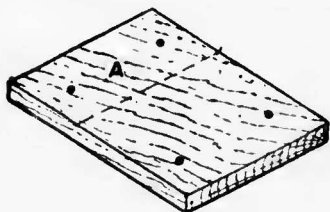
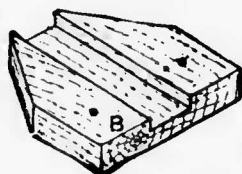

Fig. 16
Fig. 17
Figs. 16 and 17.—Details of Home-made Plough
Home-made ploughs are serviceable tools, and can be constructed from simple material, such as a chisel, some pieces of wood, and a few screws. Knock off the handle from an ordinary  $\frac{1}{2}$ -in. chisel having a "shoulder" near the haft, and replace it with a cork; cut to the shape of Fig. 16 a piece of thin wood (say  $\frac{1}{4}$  in. thick)  $2\frac{1}{2}$  in. in breadth, its length depending on the length of the chisel. Place the chisel on the wood so that the cutting end overhangs about  $1\frac{1}{2}$  in.; at the other end mark where the shoulder of the chisel touches the wood, and cut across just above the mark so that the shoulder falls over the edge and allows the chisel to lie flat on the wood. Cut another piece of wood thicker than the last (of full  $\frac{1}{2}$ -in. stuff) to the shape of Fig. 17.
B. Put the second piece of wood, groove downwards, on the first one so that the square end B of Fig. 17 rests upon the portion marked A of Fig. 16, allowing the pointed end to overhang. Screw the two pieces together from underneath, taking care
to countersink the screw-heads. In the tunnel thus formed insert the chisel with its *bevelled edge upwards*, as it must always be when in use, and see that it has a rather loose fit. If it is all right, the cutting edge will project about  $\frac{3}{8}$  in. at one end, and the shoulder will just fall over the edge at the other end. In a piece of wood c (Fig. 18), measuring, say, 2 in. by  $\frac{1}{2}$  in. by  $\frac{1}{2}$  in., make a groove of the same width as before, but a trifle deeper than the groove is at B (Fig. 17). Screw this last piece to the foundation A (Fig. 18) so that the groove en-
of course, intended to be pushed to and fro upon the right cheek of the press; but the tool, as it stands, will not cut straight through so as to leave a nice flat surface, but will rise until it has made a "hog's-back." To prevent this, provide a bar of wood  $\kappa$  (Figs. 18 and 19), which should be fixed at one end to the top  $G$  of the plough, and should rest at the other end on a guide-rail  $J$  fixed to the top face of the left cheek of the press. The bar should be rigid, say of  $\frac{1}{2}$ -in. stuff about 8 in. long, and be fixed to the plough with two screws. The top surface of the rail must be level with the top face of  $B$  (see Fig. 18); the easiest way to effect this will be to make the rail  $J$  of the same stuff as Fig. 17, and let it stand at each end on feet  $L$  (Fig. 18), made of the same stuff as Fig. 16. The bar will then lie quite horizontal across the press. Notice, too, that the rail  $J$  should be set back 1 in. or more from the inner edge of the left cheek, otherwise it will interfere with the "backing" operations.